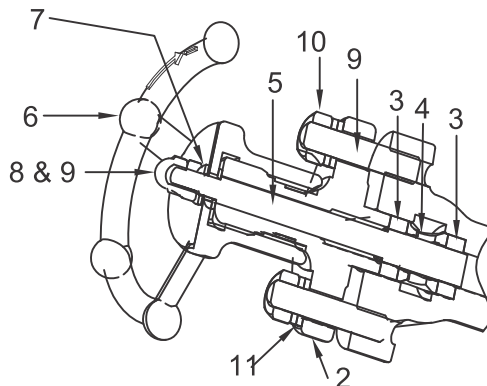

Figure 5: Section view of isolation valve
7.4. Procedure to service: [Refer figure 5]
7.6. Dismantling the Isolation valve: [Refer figure 5]
7.7. Repacking the isolation valve: [Refer figure 5 and 6]
7.8. Reassembling the isolation valve: [Refer figure 5]